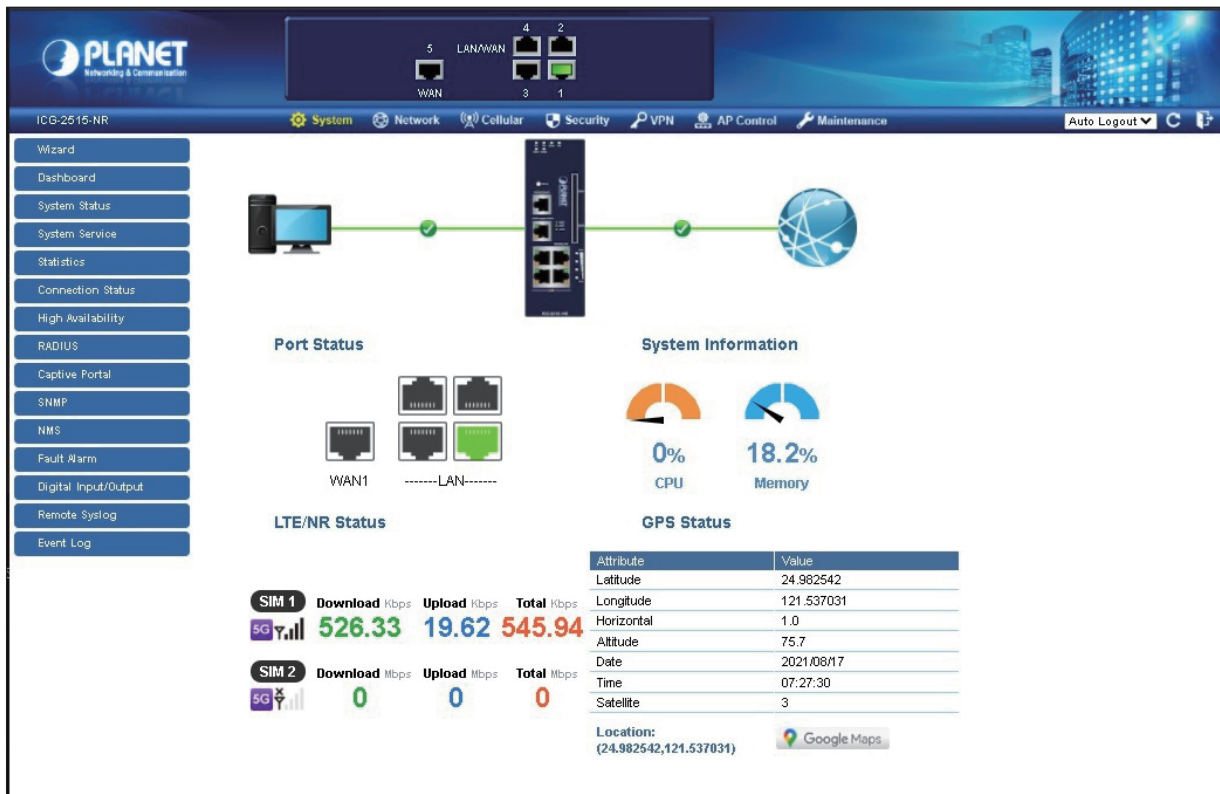

Figure 4-5: Web-based Main Screen of Cellular Gateway
3. After entering the password, the main screen appears as shown in Figure 4-5.